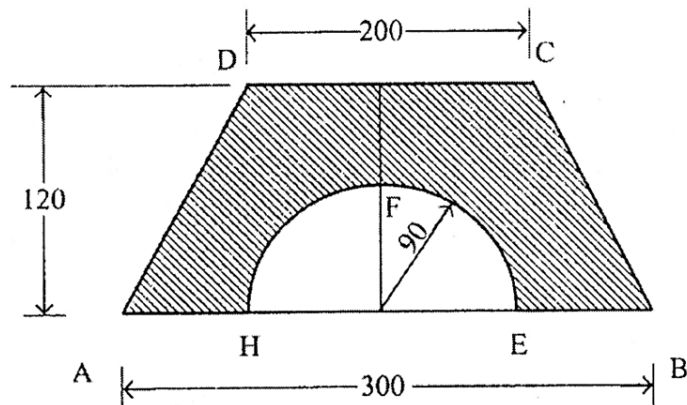

Fig 1
- VI. (a) State the laws of static friction. (6)
- (b) Find the centre of gravity of the shaded section shown in fig 1. All dimensions are in mm. (9)